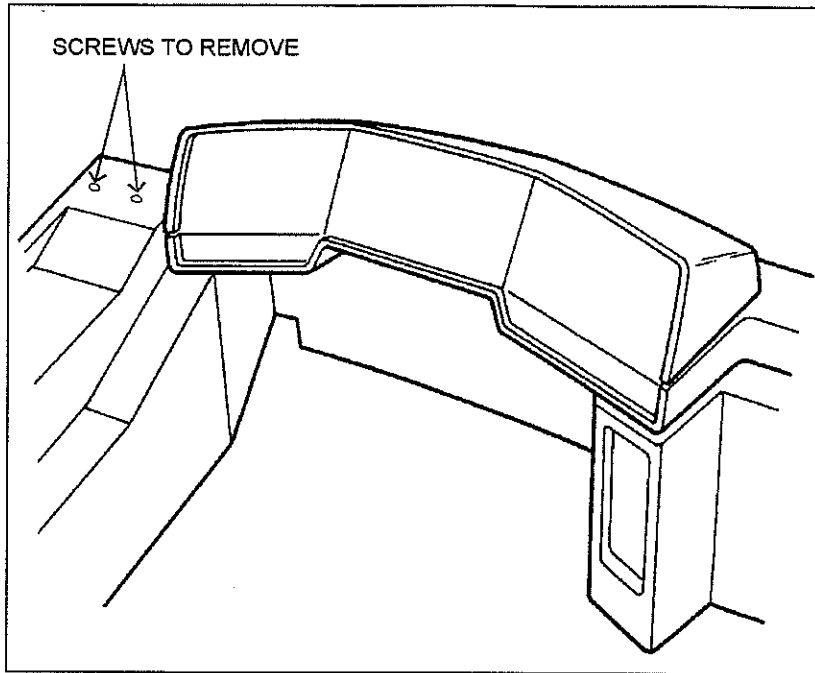
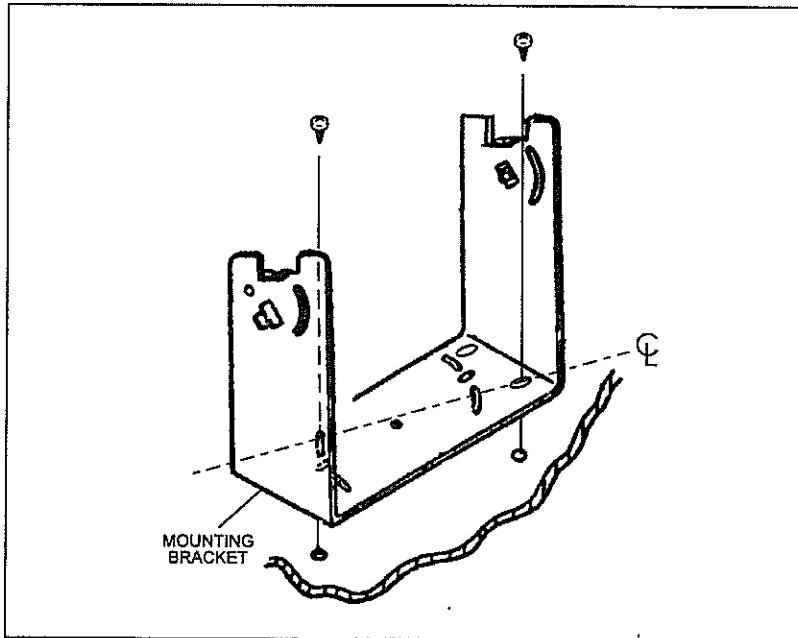

FIGURE 1
FIGURE 2
8. Remove the two screws mounted between driver's window and L.H. dashboard (see figure 1 for screw location), position the Clarion monitor mounting bracket over existing holes then fix bracket to dashboard using both existing screws. Refer to figure 2 to determine the position of mounting bracket holes to be used.